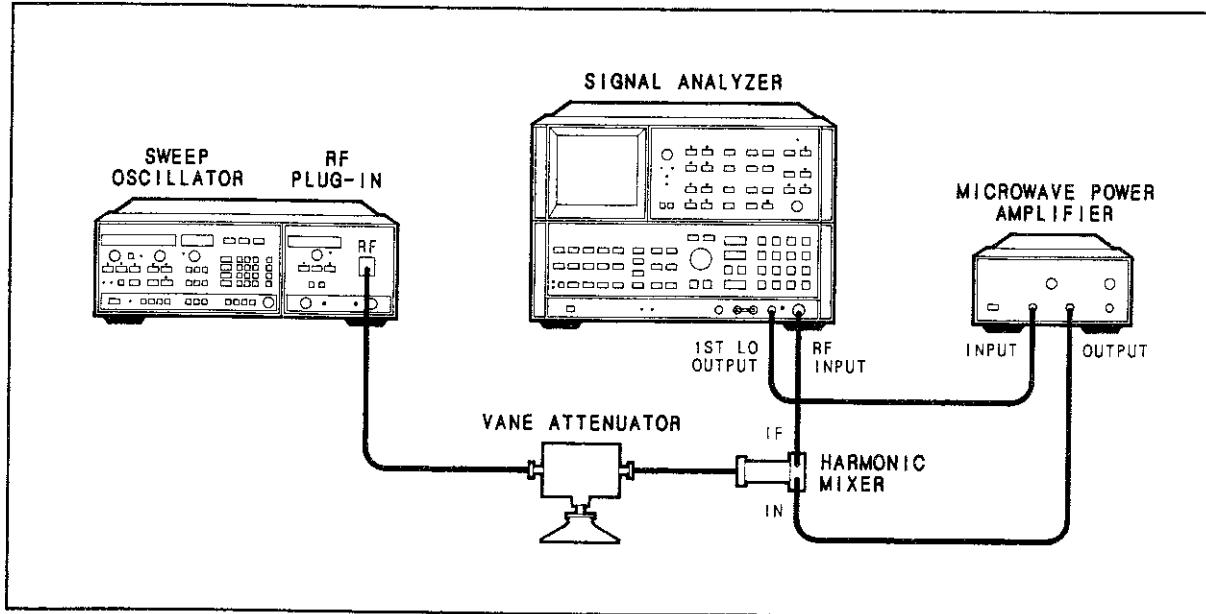

Figure 5-5. Frequency Accuracy Adjustment Setup
1. Connect equipment as shown in Figure 5-5. Set the vane attenuator to 20 dB.